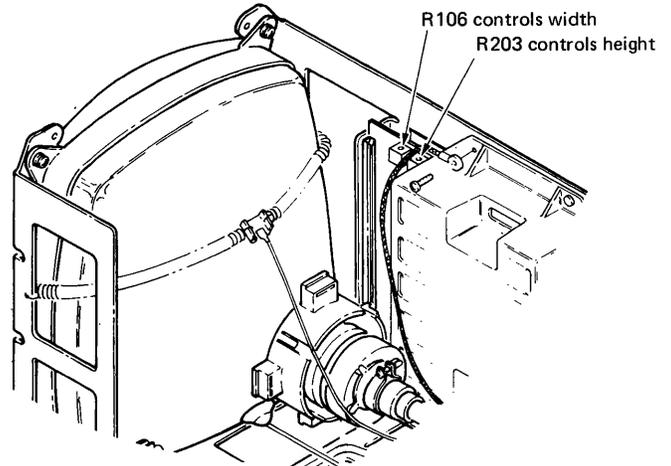

Figure 4-14. Image Adjustment Screws
6. Turn the adjustment screws on R106 and R203 fully counterclockwise to make the image on the screen the minimum size. (See Figure 4-14.)